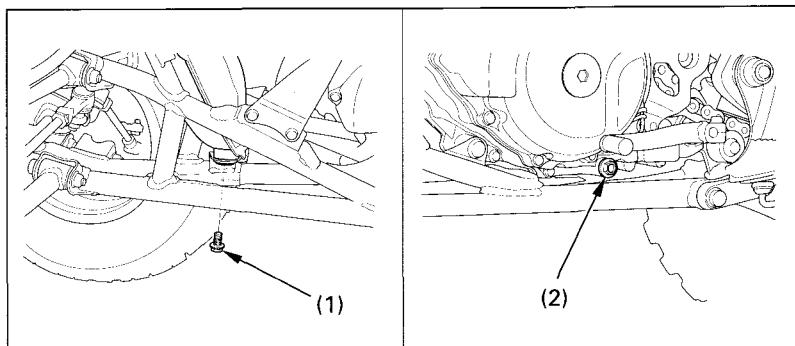

Fig. 4-12
2. Stop the engine, place an oil drain pan under the oil tank and crankcase. Remove the oil filler cap/dipstick, the drain bolt (1) on the oil tank and drain bolt (2) on the left crankcase (Fig. 4-12).